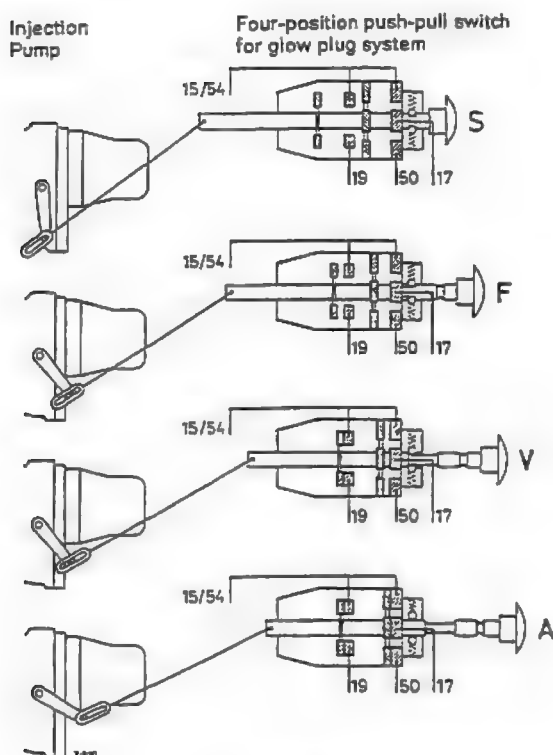

Fig. 15-30/2
Fig. 15-30/1 shows the circuit diagram for the components involved during starting. The push-pull switch (2) is shown in the drive position (F) in this diagram. The entire system can only come into action after actuation of main switch (1). This is done by turning ignition key to pos. 2 = „Drive“.
In the stop position the button of the push-pull switch (2) is pushed in all the way and the adjusting lever on the injection pump is therefore pushed completely forward by the cable control. In this position of the adjusting lever the control rod is completely in the "stop" direction; when turned off, the engine receives no more fuel and stops because the plungers of the pump elements are at zero delivery. Terminals 19, 50 and 17 receive no current in this position (see Figs. 15-30/1 and 15-30/2).